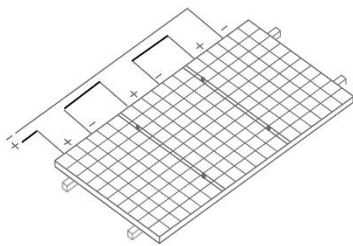

Figure 8 Connection in series
- **It is not allowed to use different models of modules in the same solar PV system. When modules are connected in series, the voltage of every string shall not be higher than the maximum voltage of the system (as shown in Figure 8). Please refer to the national, regional or local specifications for details.**